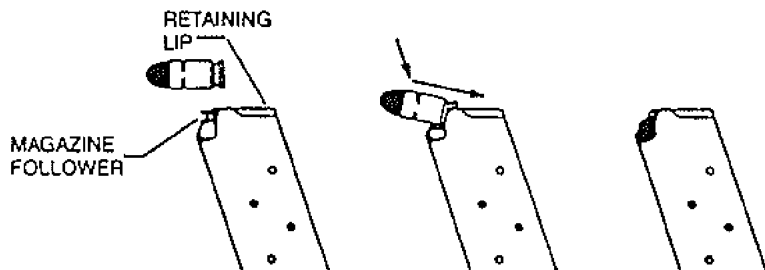

FIGURE 3 - LOADING MAGAZINE
- 3. With open end uppermost, grasp the magazine in one hand. Place a round on the magazine follower with the base of the round just forward of the retaining lips (see Figure 3). Press the round down and back until the base of the round touches the rear flat edge of the magazine.**